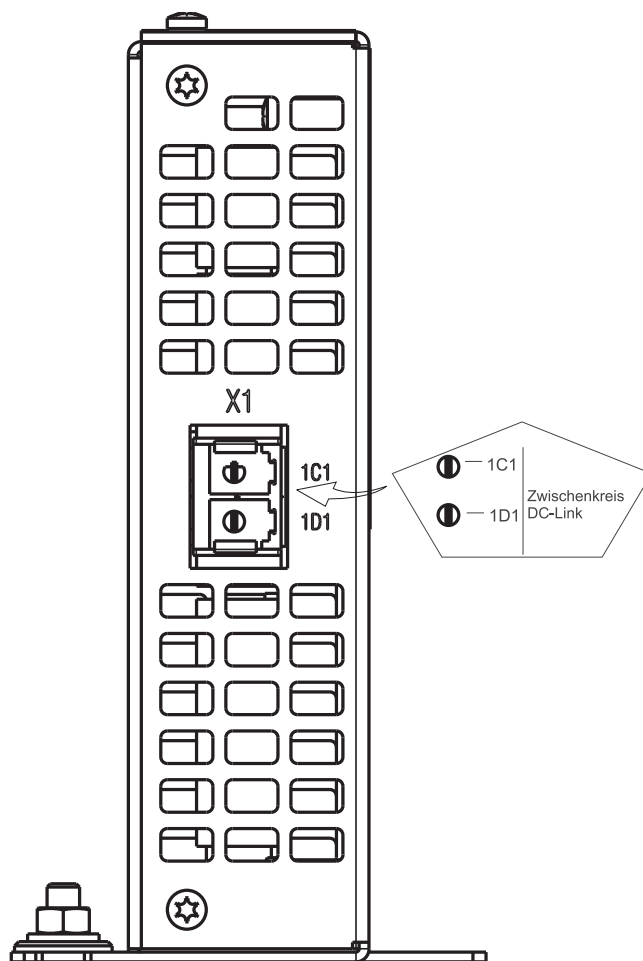

Figure 10: Electrical connections BFD-2-540-XXX
- 1C1, 1D1 Connections for the DC link, see ▶Figure 10◀ on page 46.
- PE PE-connection, see ▶Figure 10◀ on page 46.